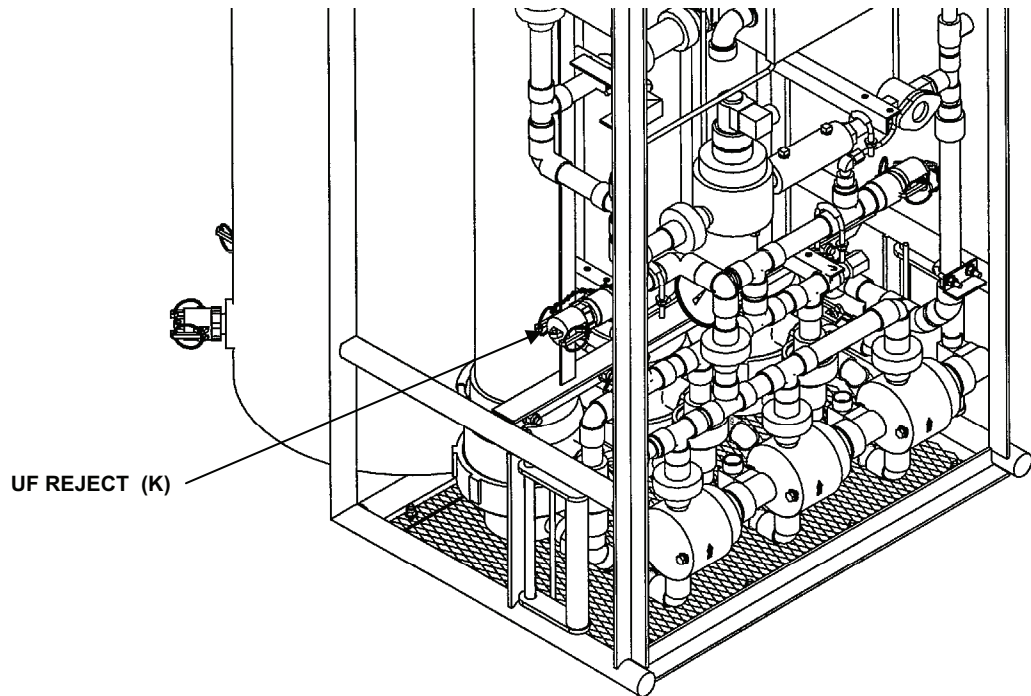

Figure 7. Raw Water Reject Outlet Connection.
11. Connect one end of a reject hose (red) to the reject outlet (K) on the UF assembly. See Figure 7.